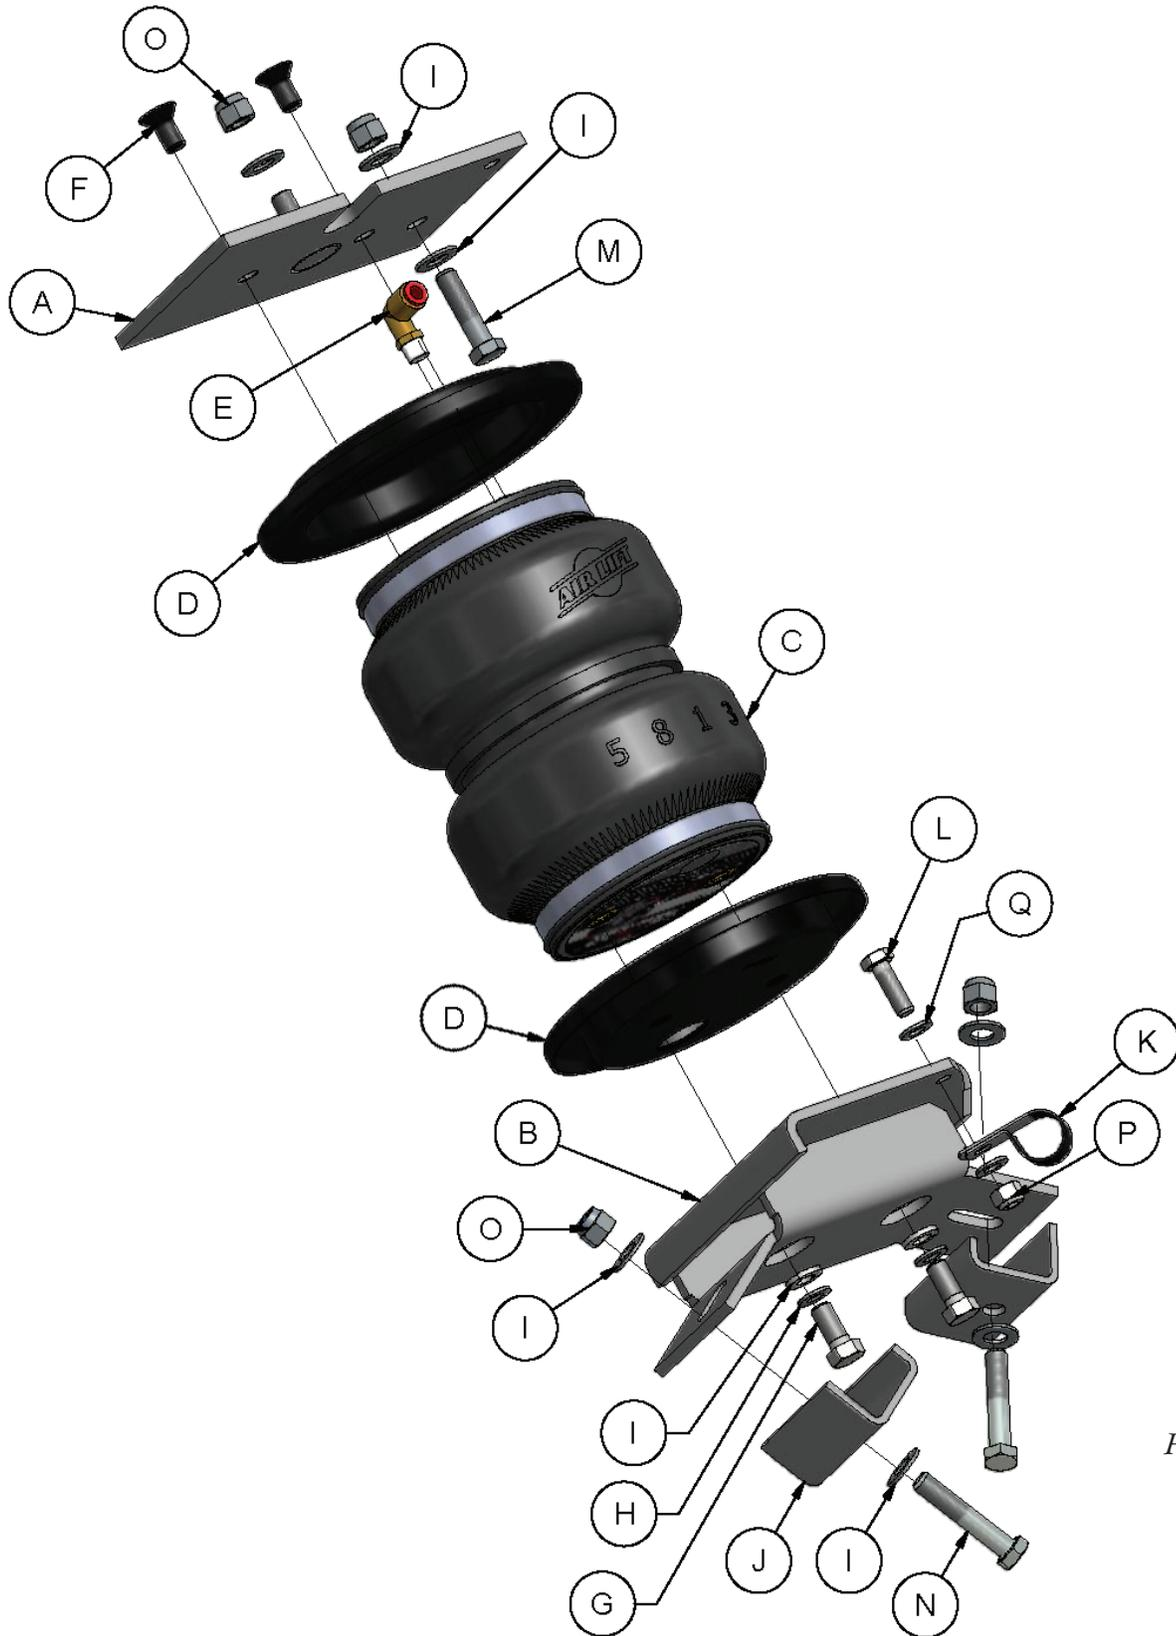

Fig. 1
* These parts are not shown in the Installation Diagram (Fig.1).
4. Insert the 3/8" bolt (M) and flat washer (I) through the upper air spring bracket (A1 and A2) in the round hole as shown (Figs. 1 and 6). The brackets will have an "L" & "R" on them to specify left (driver's side) and right hand (passenger's side) assemblies.